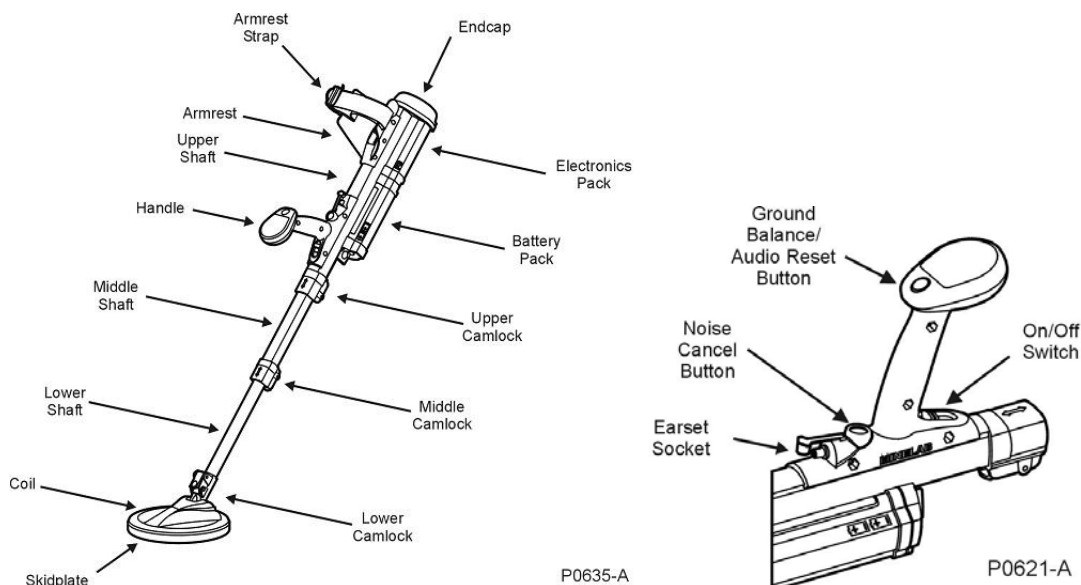

Figure 2: F3 Major Components & Handle Controls
2.1 Mechanical Testing. Confirm that all components are present in the hard case and unpack, fully extend and insert batteries into the F3 as described in the F3 Operations Manual. Figure 2 identifies the major components of the F3. During mechanical testing check the: